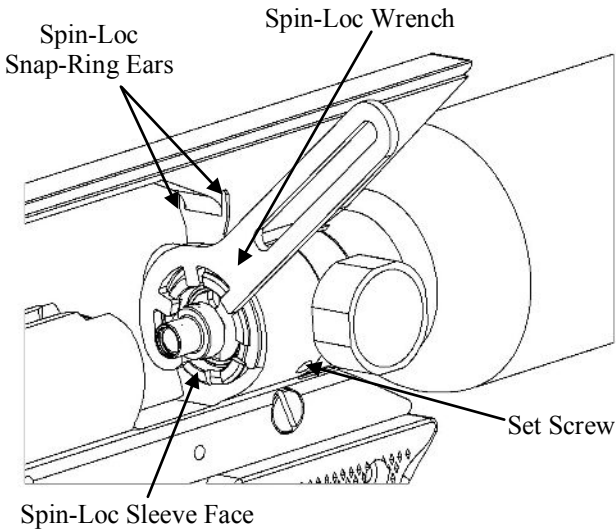

FIGURE 2
- 2: Screw the Spin-Loc Sleeve onto the air tank until it is hand tight. Make sure that the Set Screw is loose and allows the Spin-Loc Sleeve to turn freely. See FIGURE 2.
- 3: Use the Spin-Loc Wrench to tighten the air tank in place. Use **CARE** so you will not scratch your aluminum Frame. See FIGURE 2